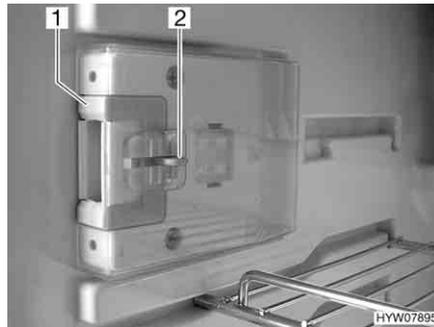
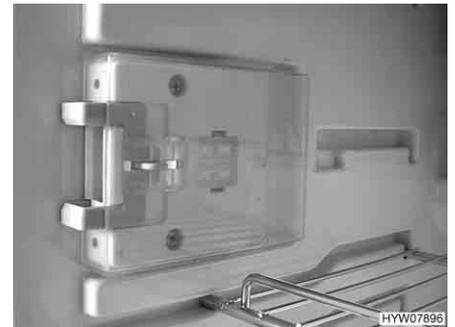

Fig. 147 Locking device in normal position
Fig. 148 Locking device in ventilation position
- Press down the unlocking device (Fig. 147,2).
- Push locking device (Fig. 147,1) forwards (Fig. 148).